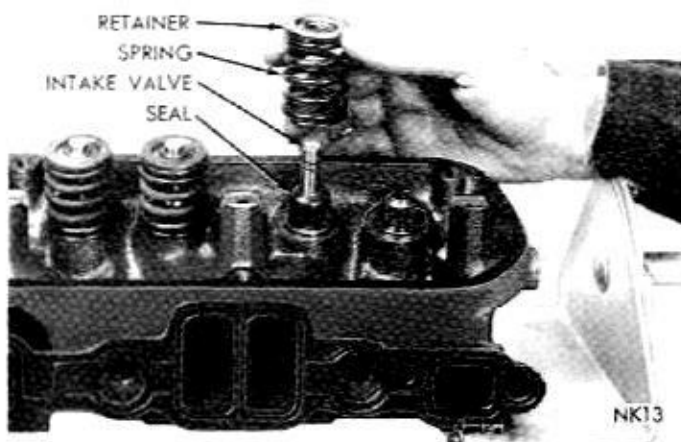

Fig. 15—Installing Valve, Cup Seals, Spring and Retainer
(3) Install new cup seals on all valve stems and over valve guides (Fig. 15). Install valve springs and retainers.
(4) Compress valve springs with Tool C-3422A, install locks and release tool. If valves and/or seats are reground, measure the installed height of springs. Make sure measurement is taken from bottom of spring seat in cylinder head to the bottom surface of spring retainer (if spacers are installed, measure from the top of spacer). If height is greater than 1-11/16 inches, install a 1/16 inch spacer in head counterbore to bring spring height back to normal 1-5/8 inches to 1-11/16 inches.